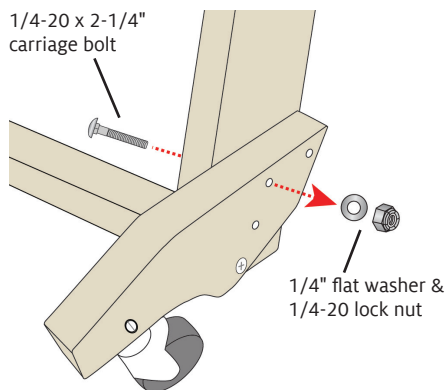

FIGURE 16: ATTACH FRONT STROLLER BLOCK THROUGH TOP HOLE
20. Attach the top hole of the stroller block with a 1/4-20 x 2-1/4" carriage bolt, a 1/4" flat washer, and a 1/4-20 lock nut (Figure 16; see p. 2 for carriage bolt installation). Depress the brake release pedal or undo the brake cord so you can reach the hardware.